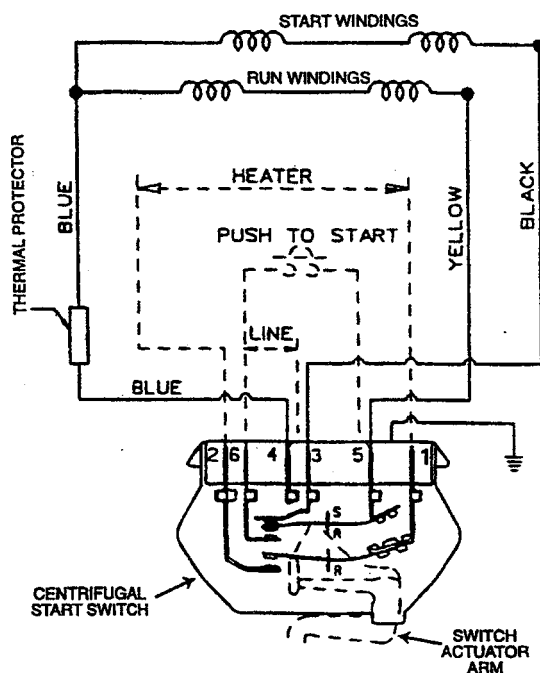

Figure 2-95
Place the leads from an ohm meter on the proper terminals as listed in the following chart (*Figure 2-95*).
Two test leads are required to check operation of the dryer drive motor. To check the motor for operation, hook up the test cord to terminals 4 and 5, (*Figure 2-95*).
2. Place ohm meter leads to terminals 1 and 2 (*Figure 2-95*).